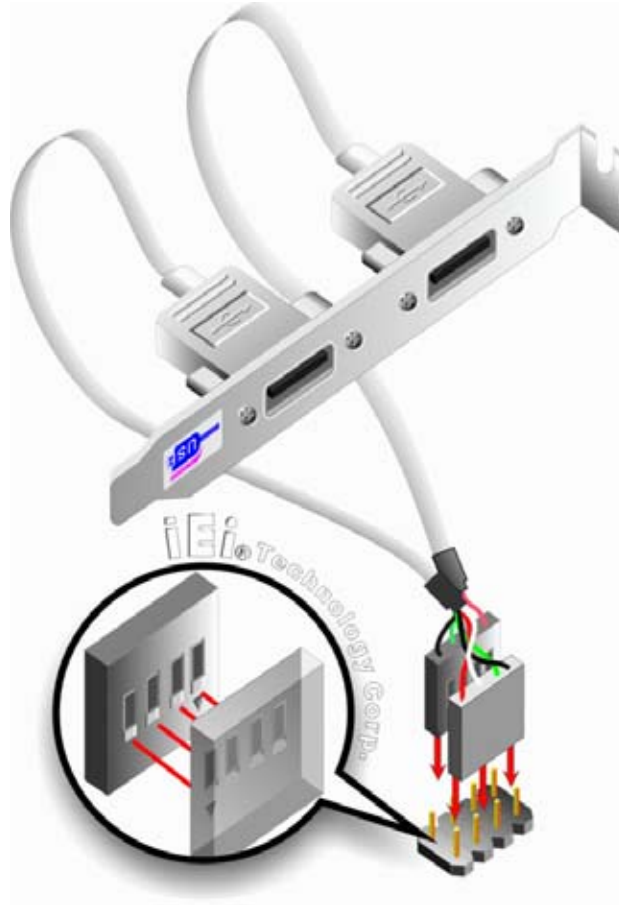

Figure 5-9: Dual USB Cable Connection
Step 3: **Insert the cable connectors.** Once the cable connectors are properly aligned with the USB connectors on the eKINO-945GSE, connect the cable connectors to the on-board connectors. See **Figure 5-9**.